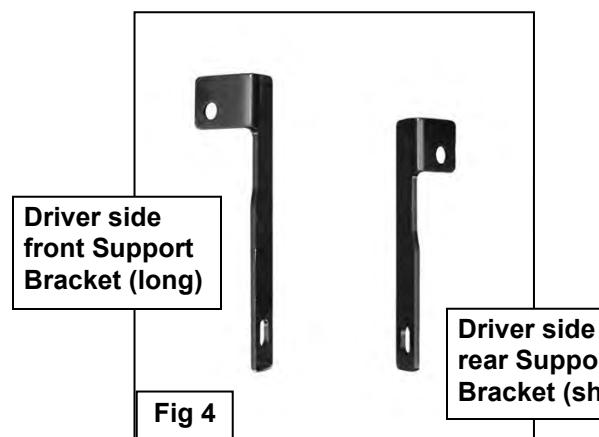
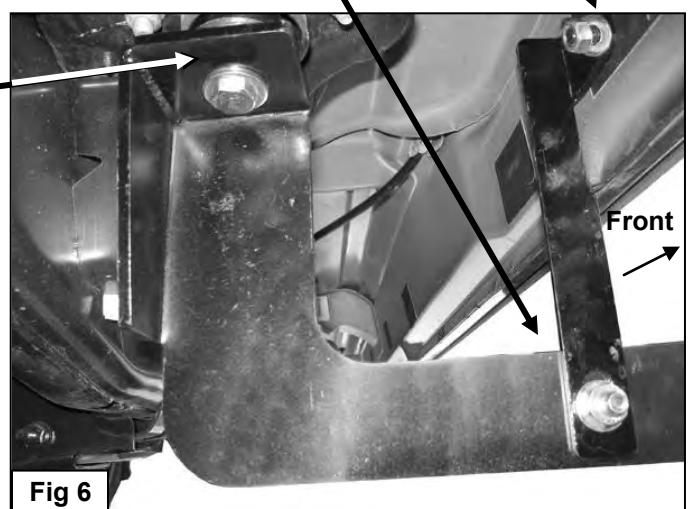
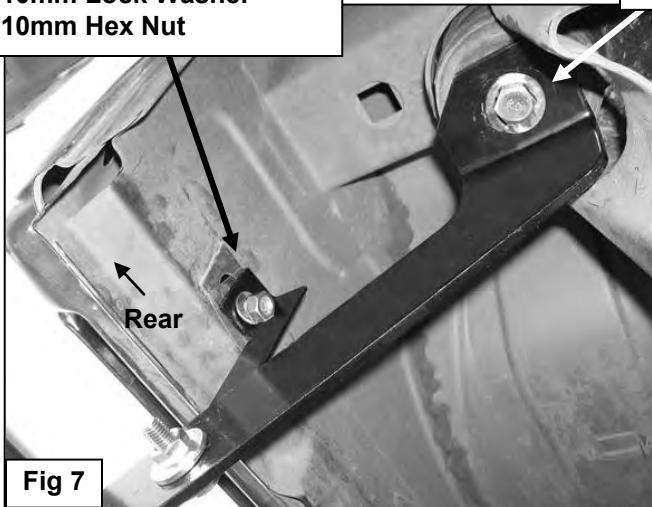

Fig 4
Fig 6
Fig 7
4. Locate the driver side front Support Bracket , **(Figure 4)**, and attach it to the Bolt Plate with (1) 10mm Flat Washer, (1) 10mm Lock Washer and (1) 10mm Hex Nut, **(Figure 6)**. **NOTE:** Place Support Bracket against the front facing side of the Mounting Bracket with the bent tab facing towards the **front** of the vehicle. Snug but do not tighten hardware at this time.
5. Select the driver side front Mounting Bracket. Insert (1) 12-1.75mm x 120mm Hex Bolt with (1) 12mm ID x 32mm OD x 3mm Flat Washer and (1) 12mm Lock Washer through the Mounting Bracket. Place (1) Spacer Plate onto the 12mm Hex Bolt then slide the rubber bushing onto the Hex Bolt, **(Figure 5)**. Make sure that the Spacer Plate is between the Mounting Bracket and the factory rubber bushing, **(Figure 6)**. Attach the front Mounting Bracket, (with hardware, factory washer and rubber bushing), up to the bottom of the body mount, **(Figure 6)**. Snug but do not tighten hardware at this time.
6. Attach the lower end of the front Support Bracket to the Mounting Bracket using (1) 10mm x 30mm Hex Bolt, (2) 10mm Flat Washers, (1) 10mm Lock Washer and (1) 10mm Hex Nut, **(Figure 6)**. Do not tighten hardware at this time.
8. Repeat **Step 3** to install (1) Bolt Plate in the inner body panel. Select the driver side rear Support Bracket, **(Figure 4)**. Attach the Support Bracket to the Bolt Plate with (1) 10mm Flat Washer, (1) 10mm Lock Washer and (1) 10mm Hex Nut, **(Figure 7)**.
9. Select the driver side rear Mounting Bracket. Repeat **Step 5** to install the rear Bracket, **(Figure 7)**.